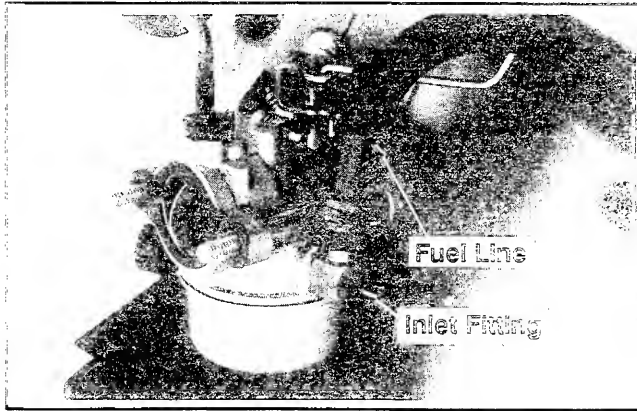

Figure 9-6. Disconnecting Fuel Line.
2. Disconnect the fuel line from the inlet fitting of the carburetor. See Figure 9-6.